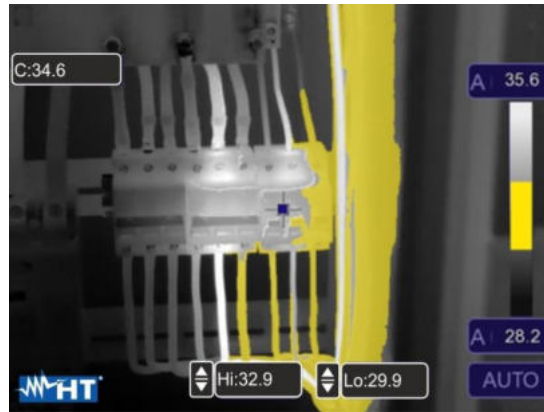

Fig. 39: Selection of isotherm line Alarm Temp. range
9. Touch the “Hi” and “Lo” field at the bottom of the display and use the arrow keys ▲ or ▼ to set the value of the **maximum** and **minimum** temperature threshold. The instrument shows the image spots with temperature between the “Lo” and the “Hi” threshold in orange color, and the remaining spots in grey color (see Fig. 39).